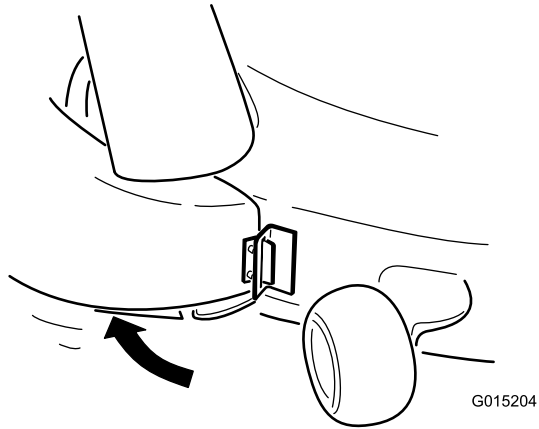
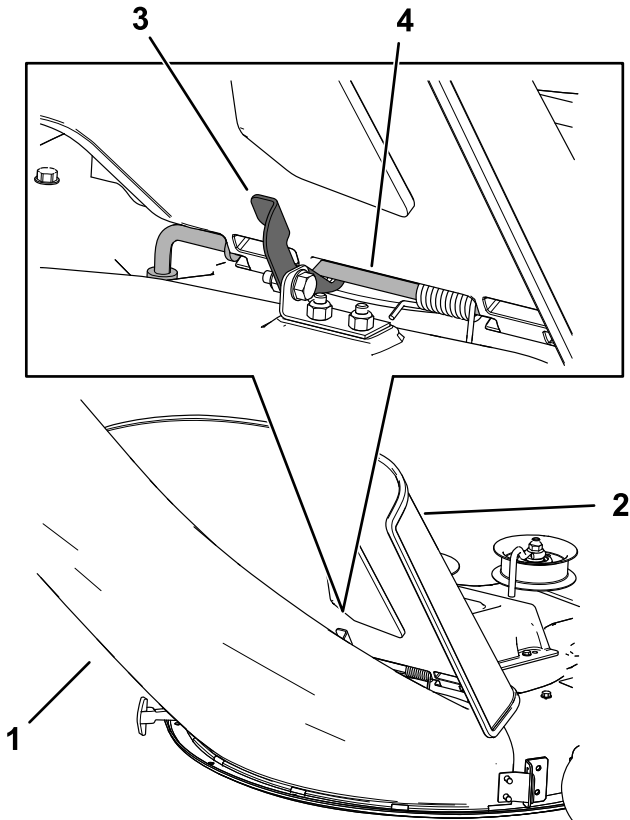

Figure 15
Figure 16
4. On the top of the chute, engage the hook-shaped latch around the pivot rod of the deflector assembly (Figure 15 and Figure 16).